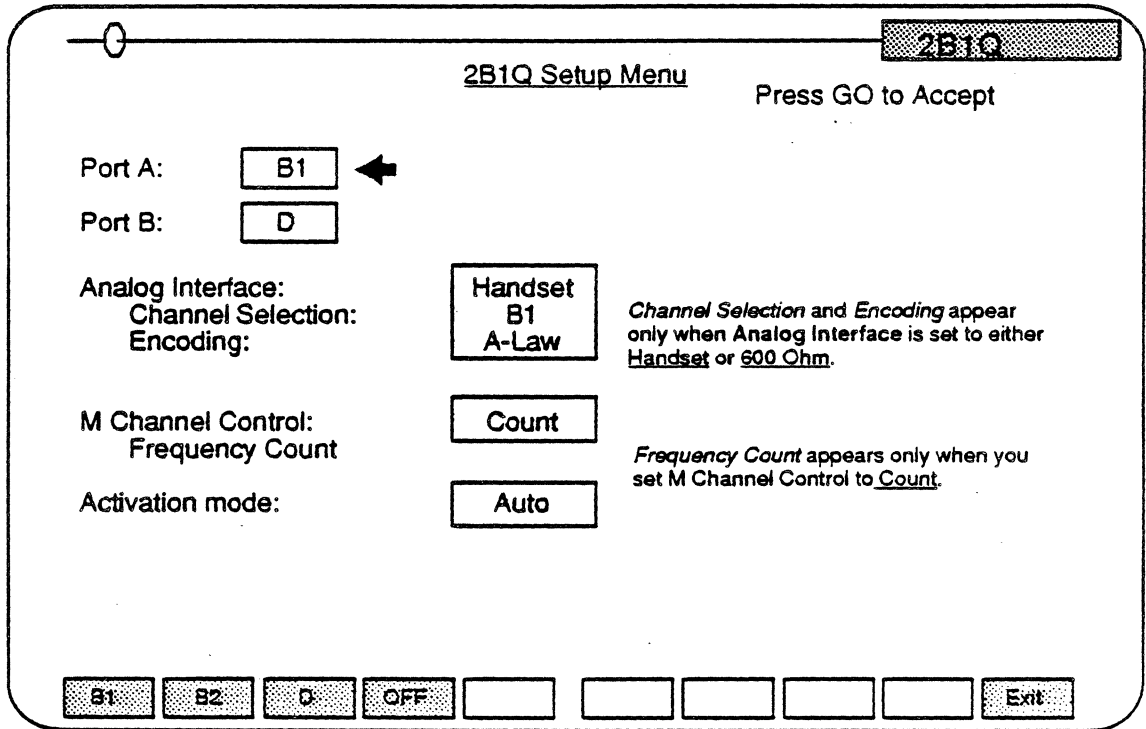
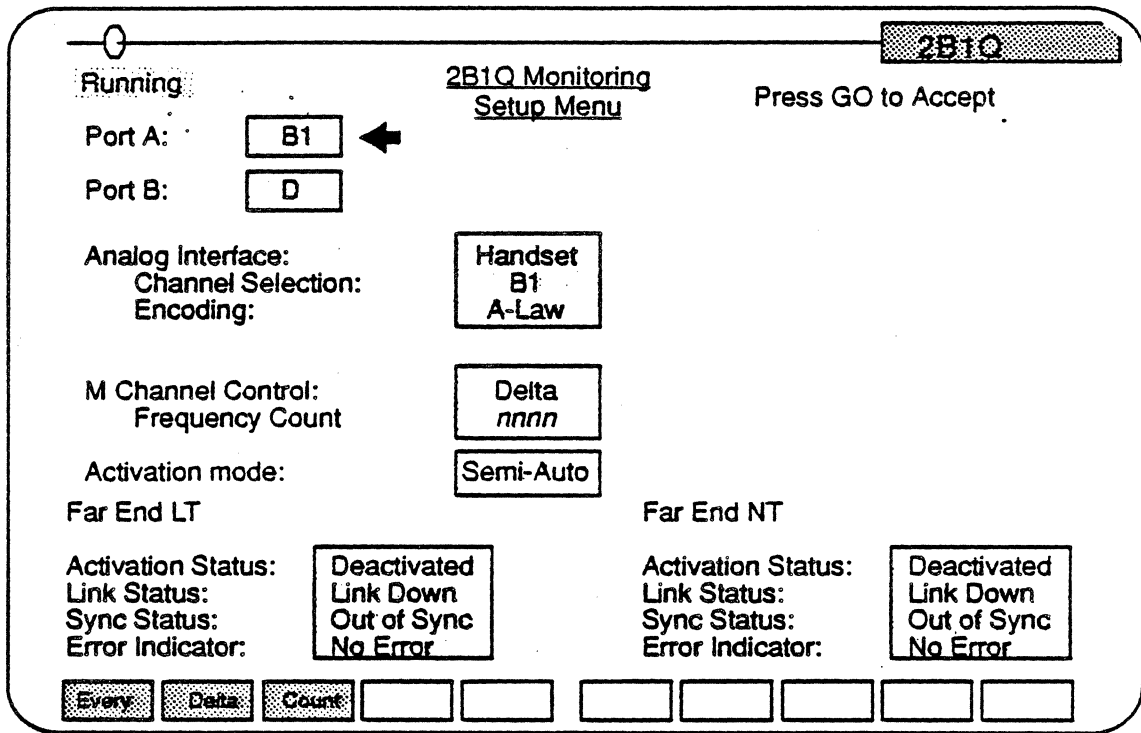

Figure 22.4: The ISDN U-Interface (2B1Q) Monitoring Setup Menu.
Figure 22.7: The 2B1Q Monitoring Setup Menu Monitoring Page.
5. Press *F7* to call up the 2B1Q Monitoring Setup Menu (see Figure 22.4). You **MUST** set the parameters of the physical interface in order for the link to be established.
When you load the 2B1Q application, a page with the banner *2B1Q Monitoring* appears (see Figure 22.7). The format of this page is similar to that of the 2B1Q Monitoring Setup Menu elicited by the *F7* key (Figure 22.4), but differs from that page in allowing you to modify the U-interface system configuration without stopping the monitoring in progress and in reporting in real time the status of the Far End LT and Far End NT links. There are two other differences: